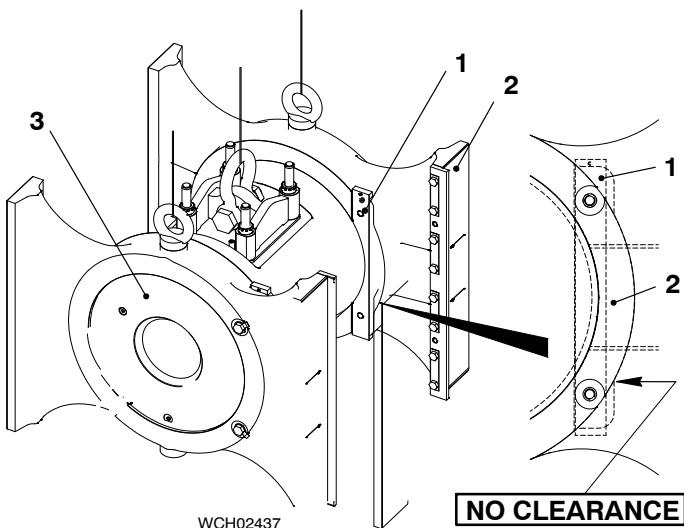

Fig. 12
- 19) Attach the two holding plates (1, Fig. 12) to the guide shoe (2) with the tab washers and bolts.
- 20) Make sure that there is no clearance between the holding plates (1) and crosshead pin (3).